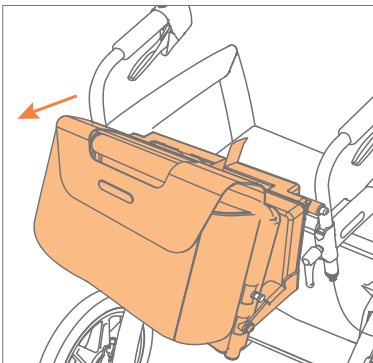

Figure 29: The wheelchair package with the bag facing you.
- Hold the Rollz wheelchair package with the bag facing you (**Figure 29**).